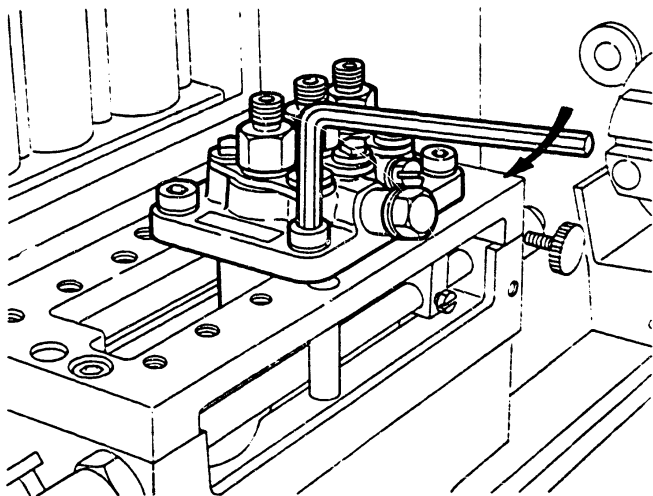

Fig. 56 Attaching the injection pump
1. Fill the driving stand's cam chamber with lubricating oil. (Figure 56)
4. Securely attach the injection pump to the holder using the socket head bolts. (Figure 56)